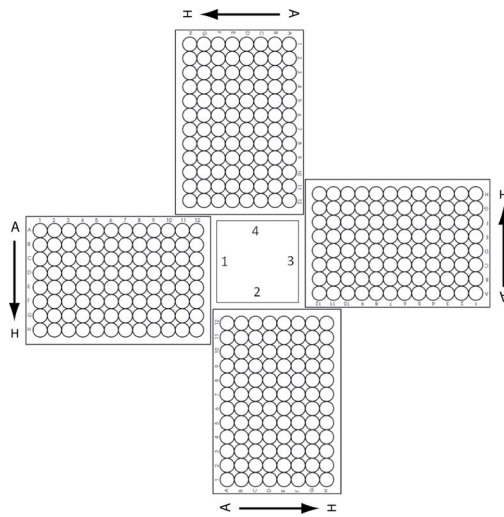

Figure 4 Agilent Labware MiniHub plate orientation.
- Using the plate orientations shown in Figure 4, load the Labware MiniHub according to Table 23.